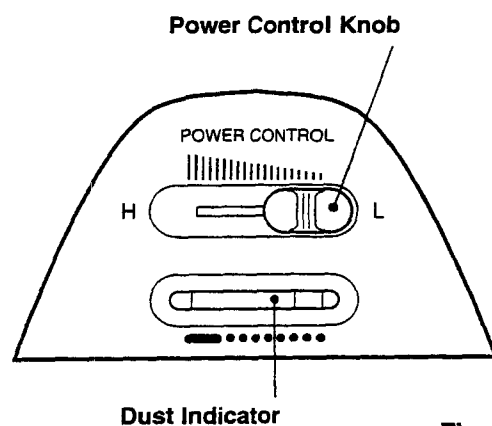

Fig. 7
- 2 To turn off the vacuum cleaner, touch the switch to the "OFF" position. (Fig. 7)
To decrease the suction power, slide the switch toward the "L" position. (Fig. 7)